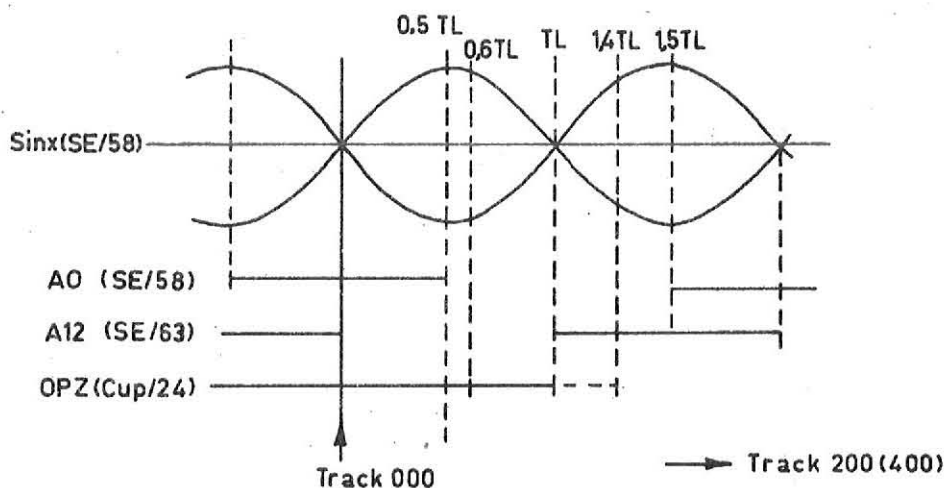

Figure 7-5
3.4 OPTICAL ZERO ADJUSTMENT (Figure 7-5)